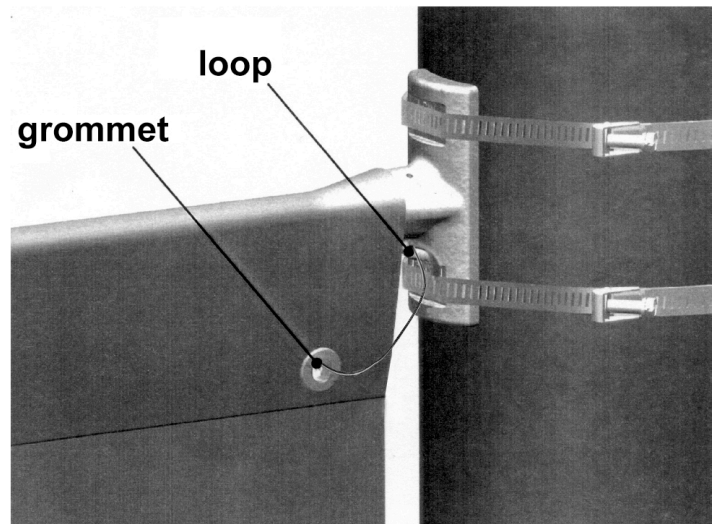

Figure 2
- 6 Insert the #18 Gauge Wire Tie through grommet(s) banner(s). Either put through the loop in the casting(s) or wrap around the utility pole and secure. **See Figure 2.** This must be done to secure the banners to the pole.